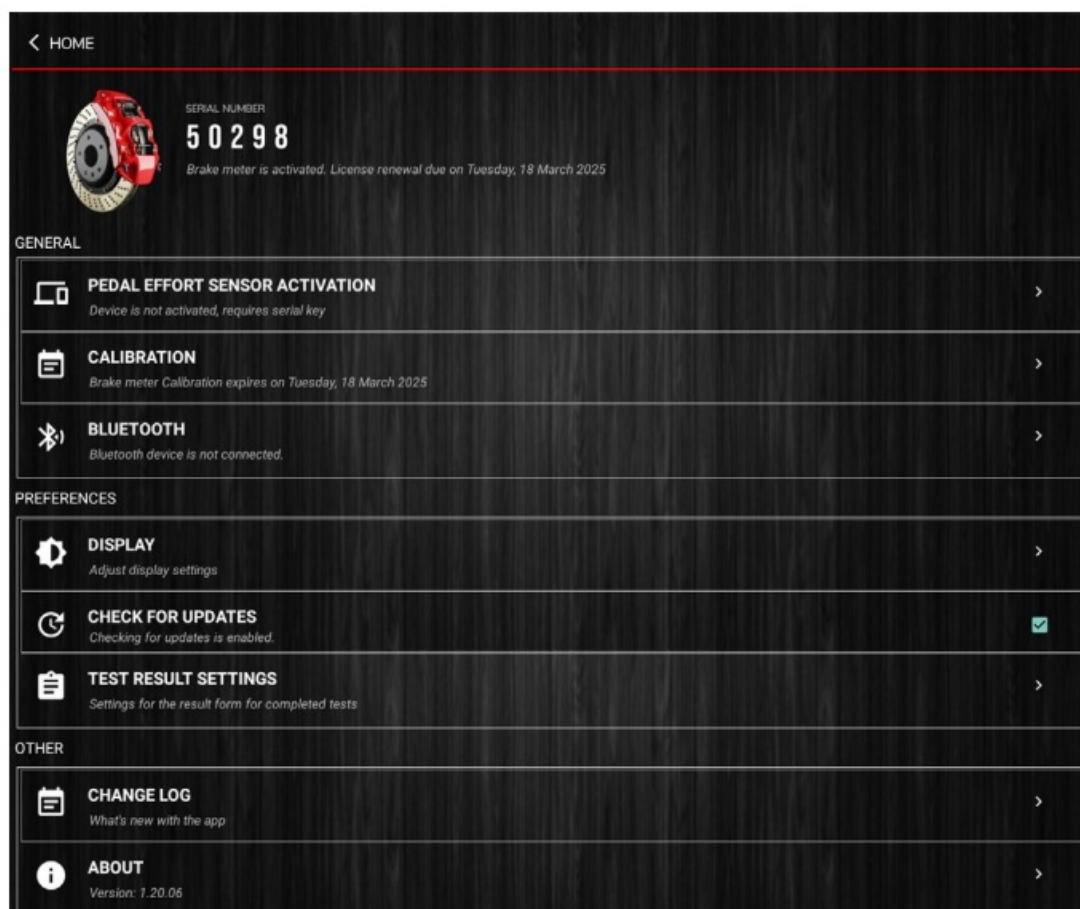

Figure 34
- The “Settings” page will help you manage the features of your Workshop Pro. (Figure 34)